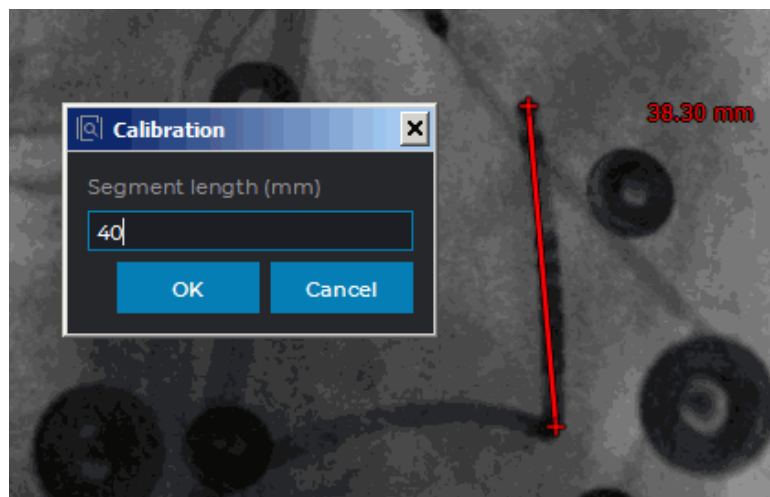

Figure 2.94: Calibration size
3. In the dialog box that appears, type the real length of the interval constructed (Fig. 2.94). To calibrate the size, click **OK**, to cancel, click **Cancel**.